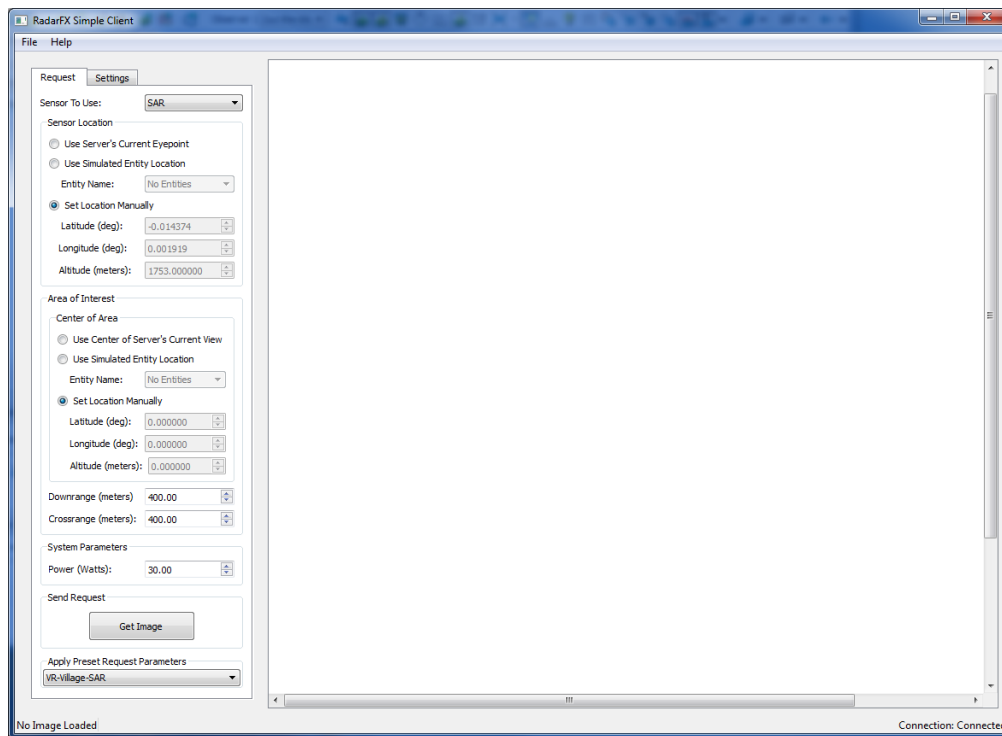

Figure 3-1. RadarFX Simple Client
2. In the Connect to RadarFX Server dialog box, accept the default values. Click OK. The RadarFX Simple Client opens (Figure 3-1).